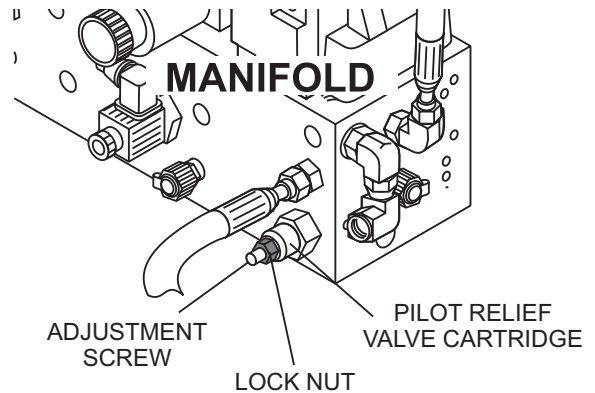

Figure 51. Pilot Relief Valve Cartridge Adjustment
4. Loosen the lock nut for the the accumulator circuit **pilot relief valve cartridge** (Figure 51), located at port **G4**. Using an allen wrench, turn the adjusting screw until pressure gauge reads **1950 PSI** and tighten lock nut. Turn the engine off and on several times to make the pressure continues to read 1950 PSI.